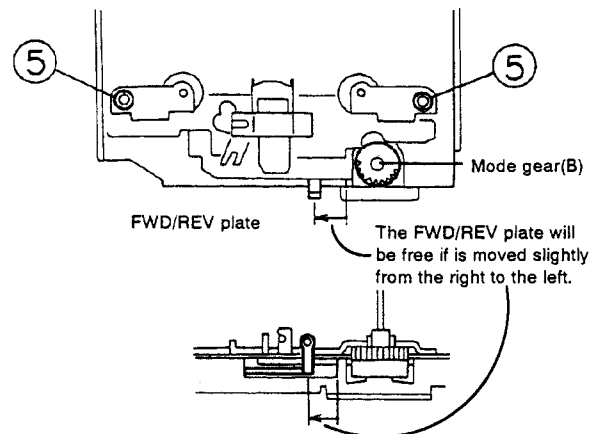

Fig. 4-15
■ Pinch roller ass'y (See Figs. 4-15 and 4-16)
- 1) Remove two C washers ⑤ securing the pinch roller ass'y (do this for both the FF and REV modes).